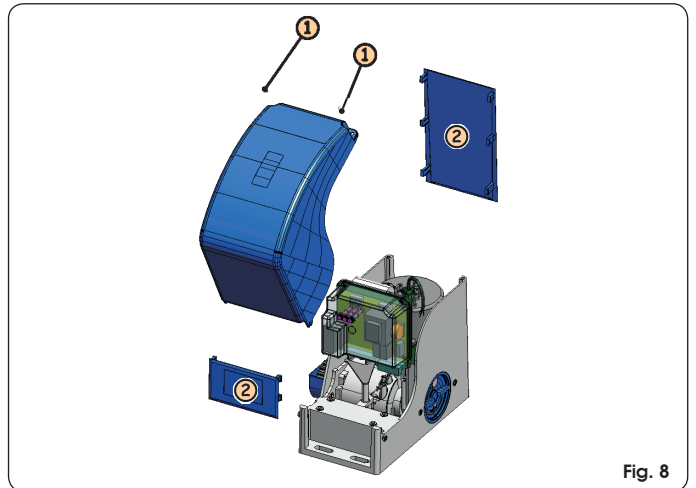

Fig. 8
- ① Remove the motor cover, fully unscrewing the 2 upper securing screws (Fig. 8 ref. ①).
- ② Rotate the cover by about 30° and pull upward.
- ③ Withdraw the 2 lateral protective devices (Fig.8 ref. ②).